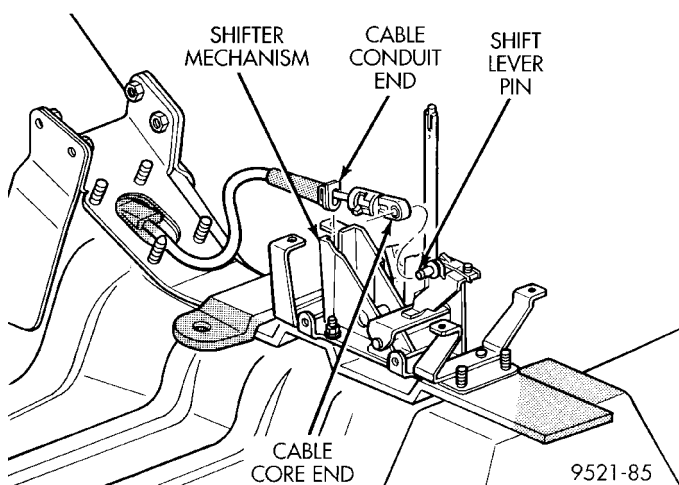

Fig. 14 Gearshift Cable
(4) Remove the screws retaining the gearshift indicator bezel and remove bezel and indicator lamp.
(5) Using a flat-blade pry tool, remove the shifter cable end from the gearshift pin (Fig. 14).